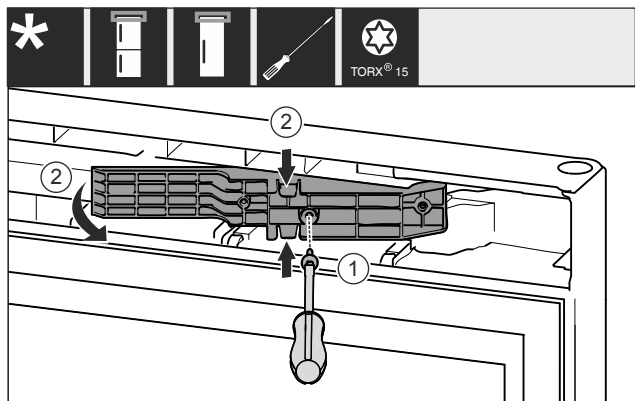

Fig. 12 *
- ▶ Skrutkovačom T15 uvoľnite skrutky. Fig. 12 (1)*
- ▶ Vytiahnite adaptér. Fig. 12 (2)*